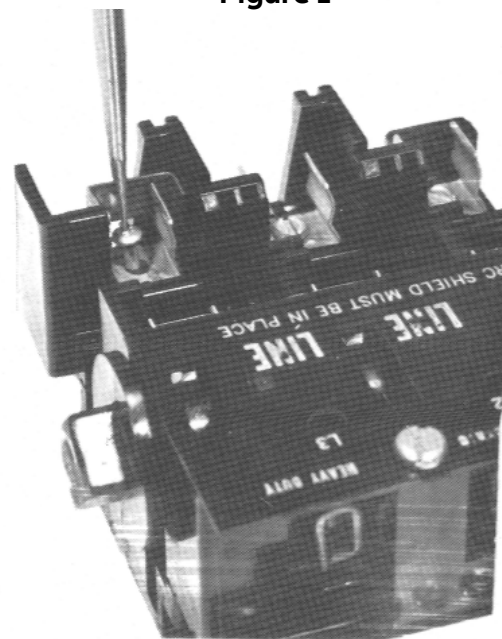

Figure 2
2. Attach the Fuse Clip and Bracket Assembly to the Load Base by inserting Drive Rivet with screw driver or similar tool as shown in Figure 2.